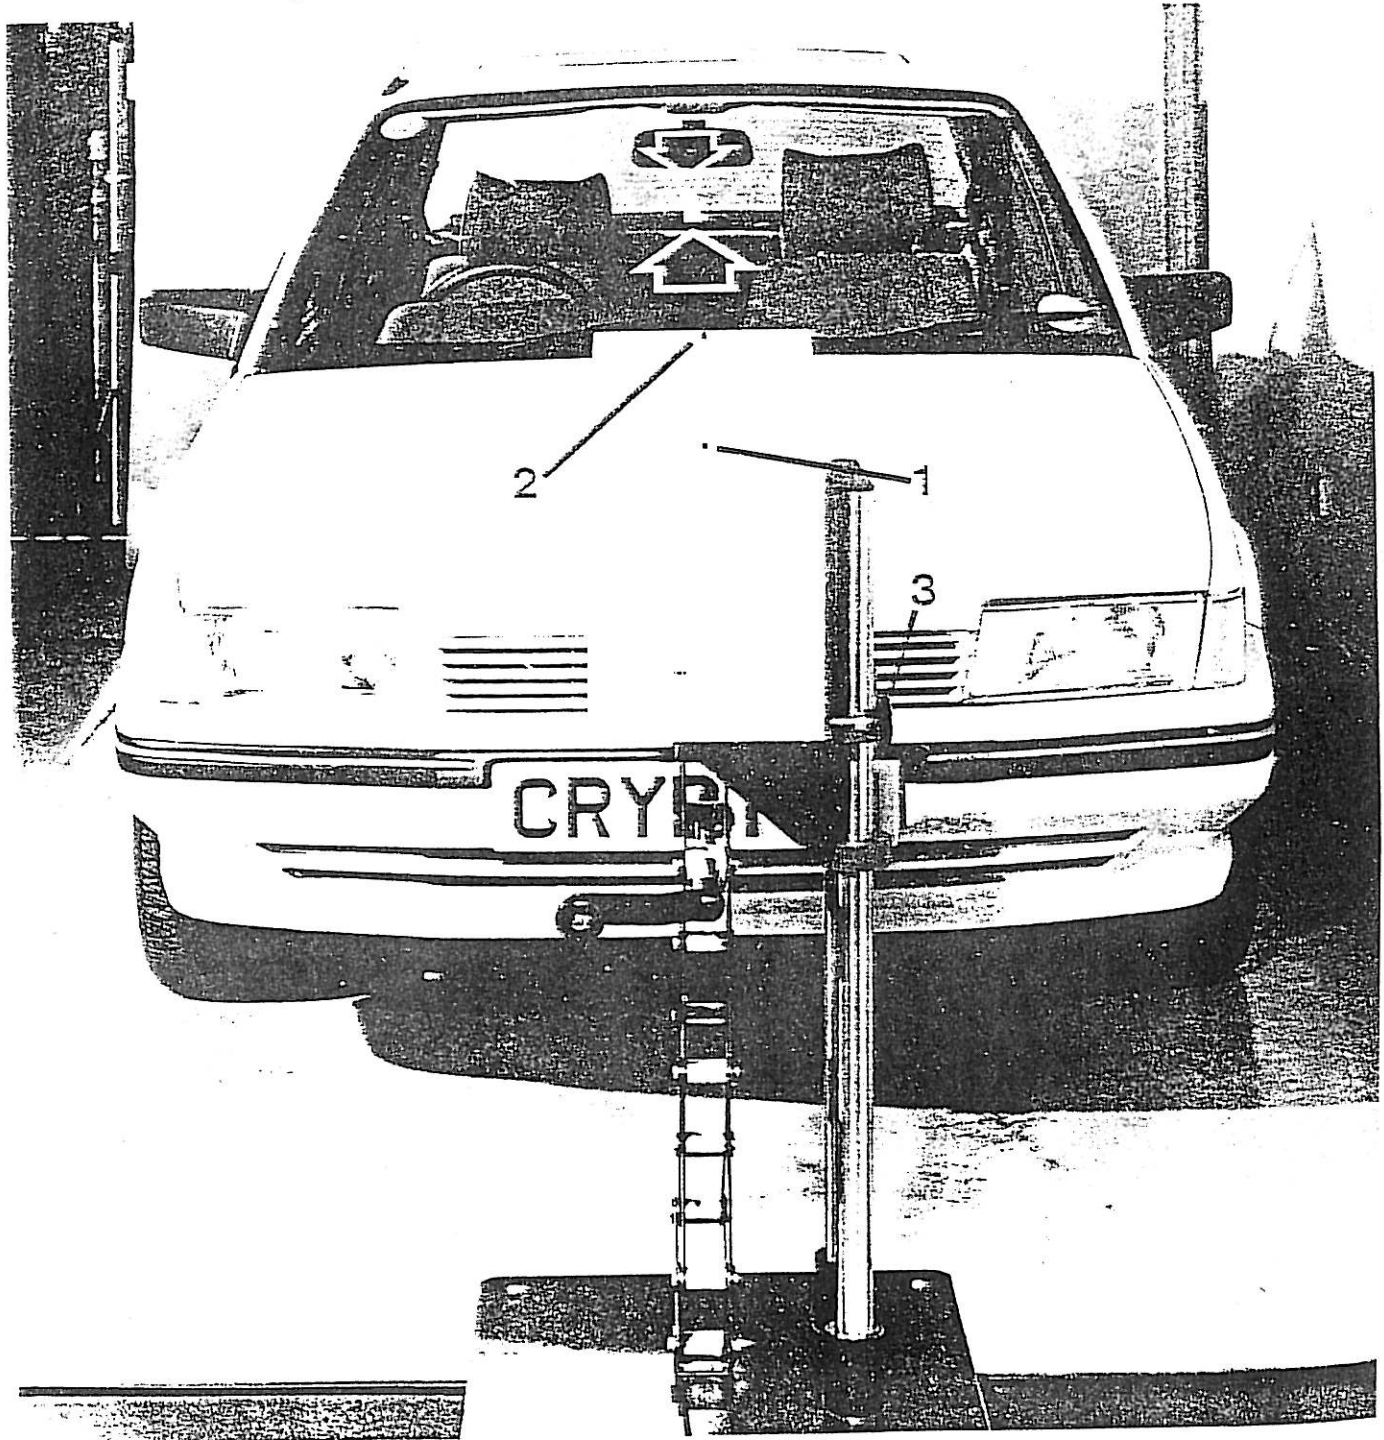

Fig. 2
3. Align the backsight (Fig. 2-1) and foresight (Fig. 2-2) on the headlamp aligner using the knurled adjusting knob (Fig. 2-3) with the two selected points on the vehicle arrowed in Fig. 2. It may be necessary on some cars to raise the aligner to its full height for this operation.